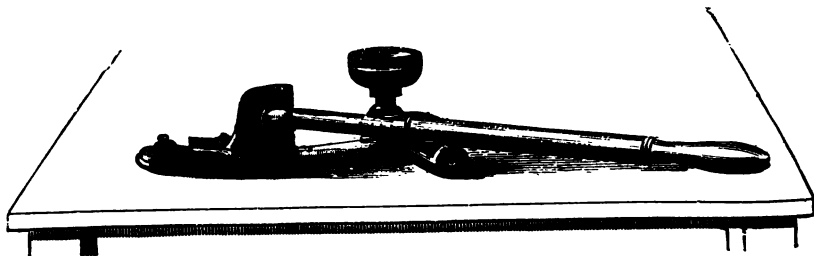

Fig. 96.—SEAM RUBBER.
**Seam Rubber** (Fig. 96) represents an instrument for pressing seams in order that they may be made to lie